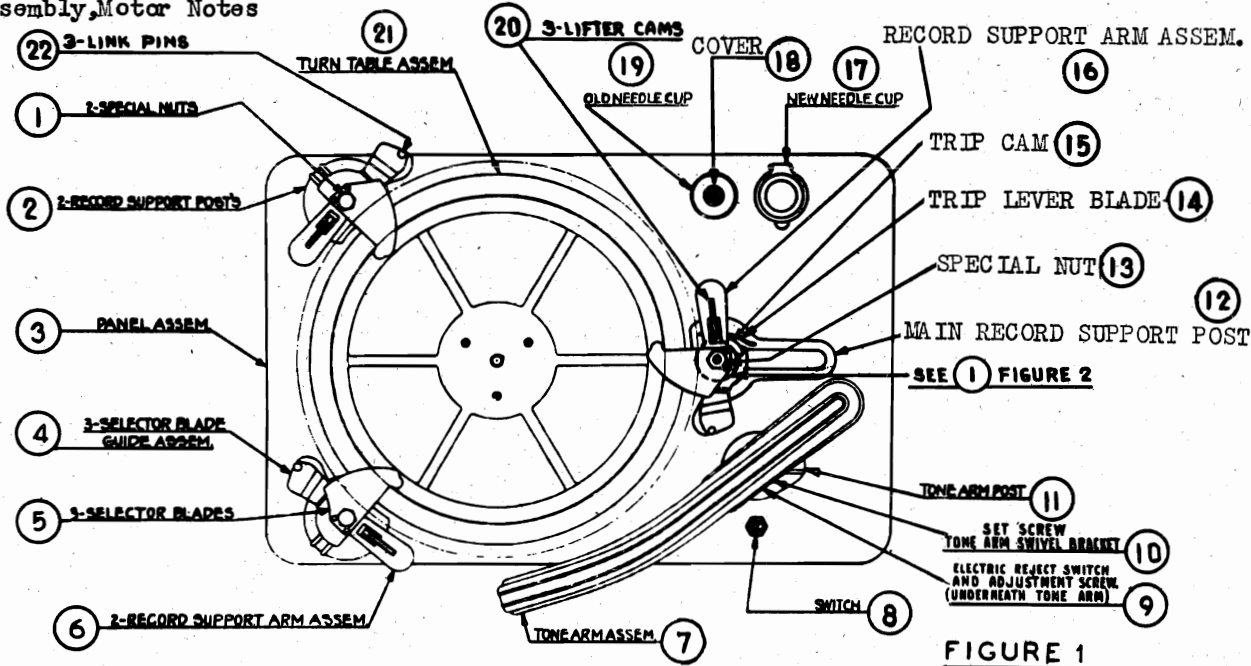
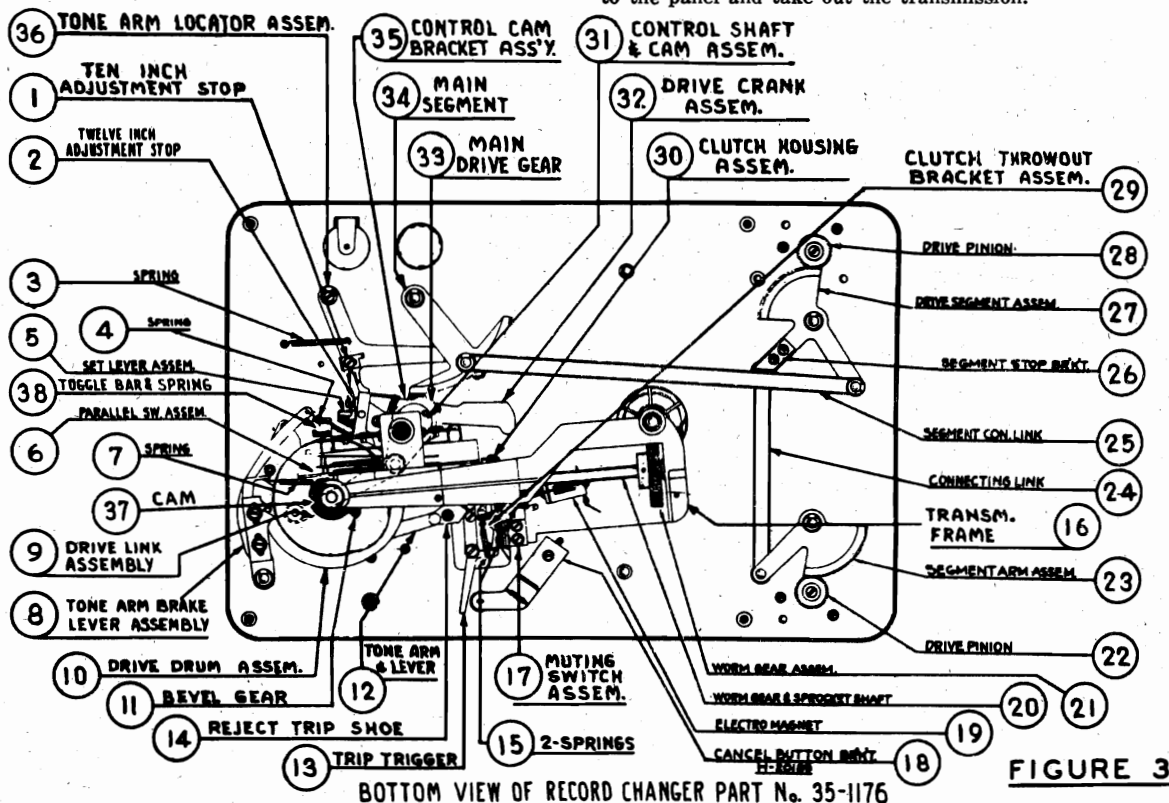

FIGURE 1
FIGURE 3
1. Adjust screw (9) Fig. 1 located in the tone arm directly above the end of the tone arm shaft. Turn this screw in the direction necessary to obtain a clearance of $\frac{1}{16}$ " between the bottom of the groove in the turntable and the bottom end of the needle.
3. Also check the electric magnet (19) Fig. 3 and associated wiring for open circuits.
4. Check the small metal rod connecting the trip trigger (13) Fig. 3 and lever of electric magnet.
1. See that the screw (10) Fig. 1 which clamps the tone arm swivel bracket is tight. Make sure that the set screws holding the tone arm lever (12) Fig. 3 to the tone arm shaft are tight.
Records with an oscillating reject groove are rejected by the trip dog located on the end of the tone arm lever (12) Fig. 3 engaging the saw teeth of the trip trigger (13) Fig. 3. When the mechanism will not reject an oscillating groove record, either the screws mentioned in paragraph 1 are loose or the trip dog trip trigger (13) Fig. 3 or springs (15) Fig. 3 are at fault. When it is found that these parts have become worn or weak, they should be replaced.
Records with spiral reject grooves are rejected by the trip shoe (14) Fig. 3 located on the end of the tone arm lever (12) Fig. 3. This trip shoe (14) Fig. 3 hits the pin on the trip trigger (13) Fig. 3 releasing the clutch throwout bracket (29) Fig. 3. This should occur when the pick-up needle has traveled to within a distance of $1\frac{1}{8}$ " from the center of the turntable spindle. Adjust the mechanism to properly reject this type of record as follows: If the pick-up does not reject the mechanism after traveling to within $1\frac{1}{8}$ " from the center of the turntable spindle (or $1\frac{1}{4}$ " from the edge of spindle), loosen the knurled nut holding trip shoe (14) Fig. 3 to the tone arm lever (12) Fig. 3. Move trip shoe toward or away from the pin on the trip trigger (13) Fig. 3 until the trip shoe operates the mechanism properly. When this point is found, the knurled nut should be well tightened.
Ten and twelve inch records in a mixed loading are separated by lifter cams (20) Fig. 1 located on the record support arms (6) (16) Fig. 1. These cams operate when the next record to be selected by the mechanism is 10" and are designed to lift a 12" record when one is located directly above the 10" record. This allows the selector blades (5) Fig. 1 and guide arms (4) Fig. 1 to slide under the 12" record so that a 10" record can be placed on the turntable. The lifter cams (20) Fig. 1 are caused to operate by the 10" record hitting the end of the cam. Check the following parts when mechanism does not separate records properly:
1. The lifter cam link (20) Fig. 1 should be approximately $\frac{3}{32}$ " above the surface of the record support arms (6) (16) Fig. 1 when no records are on support arms (6) (16) Fig. 1. This link is held in this position by the small return spring found under (20) Fig. 1 underneath the support arms (6) (16) Fig. 1. If link is not above the surface of support arms (6) (16) Fig. 1, check for loose spring; replace spring if necessary.
2. The selector blades (5) Fig. 1 should have a slight downward pressure on the top surface of the guide arms (4) Fig. 1 when in their return position ready for next selection.
The pick-up is set for 12" records by the trip cam (15) Fig. 1 that is pivotally mounted under the selector blade on main record support post (12) Fig. 1. This trip cam is operated by the edge of a 12" record compressing the cam when the record support arm moves in a clockwise direction. This cam moves trip lever blade (14) Fig. 1 and toggle bar and spring (38) Fig. 3 which pushes set lever blade (5) Fig. 3 into position to hold the tone arm locator (36) Fig. 3 in the 12" position.
After playing a record or the mechanism has been rejected, the set lever (5) Fig. 3 is reset for the 10" position by the control cam bracket lever (35) Fig. 3 mounted on the set lever shaft. The control cam bracket (35) Fig. 3 engages the control shaft cam pin (31) Fig. 3 at the start of rotation.
Adjustment of the tone arm when placing the needle in the first groove of 10" and 12" records is controlled by tone arm locator (36) Fig. 3. When 10" or 12" adjustments are made, the 12" adjustment should be made first. If 10" adjustment alone is necessary, the 12" adjustment should be re-checked. Adjustment of the locator lever is as follows:
3. Start mechanism and allow pick-up to position itself on the outer edge of the record. If the needle has not been placed in the center of the smooth outer rim of the record, adjust stop (2) Fig. 3 by loosening set screw. Move the stop in the direction necessary to center the needle on the smooth outer rim of the record.